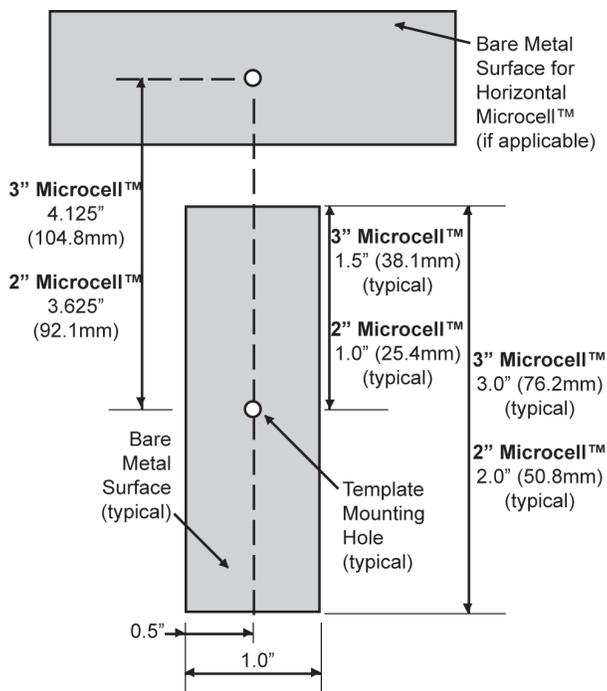

Figure 3-7. Prepared Mounting Surface.
1. See Figure 3-7. At the center of the vertical Microcell™ mounting location, drill a $\frac{3}{4}$ " (19mm) deep hole with the #29 drill bit. This produces the template mounting hole. Repeat for the horizontal Microcell™ (if applicable).
2. See Figure 3-7. Mark the surface preparation area for the vertical Microcell™ and horizontal Microcell™ (if applicable).